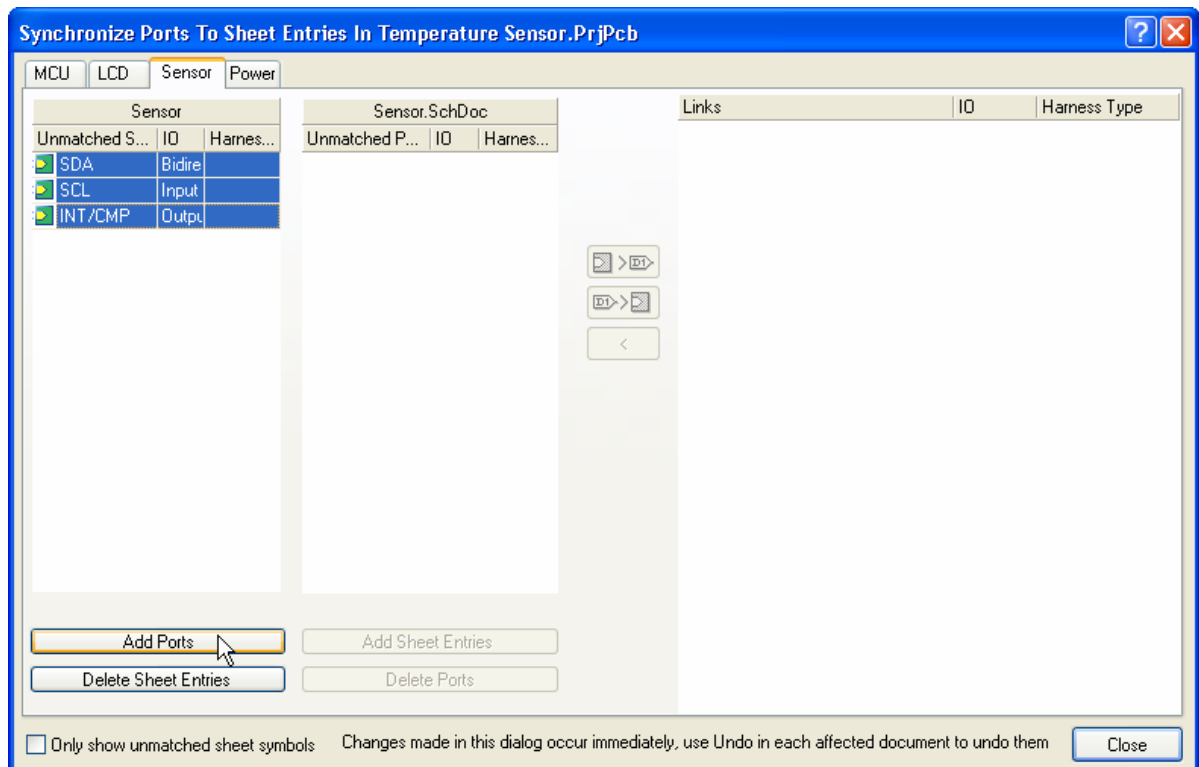

Figure 8. Problems found - missing ports on a sheet
4. The second problem is that the sheet entries exist, but they have no matching ports. Select all 3 sheet entries as shown in Figure 8, once you do you will have the option of either deleting the sheet entries, or adding ports. Click **Add Ports**, when you do the dialog will temporarily disappear, the Sensor schematic will become active, and the cursor will have 3 ports on it. Place them anywhere for now, then close the dialog and return to the Sensor schematic and correctly position the ports onto their wires.